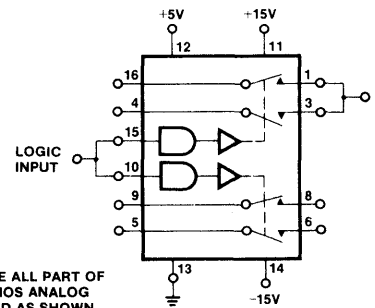

Figure 3B.
* SW_1 , SW_2 , & SW_3 ARE ALL PART OF A SINGLE IH5043 CMOS ANALOG SWITCH CONNECTED AS SHOWN IN FIGURE 3B